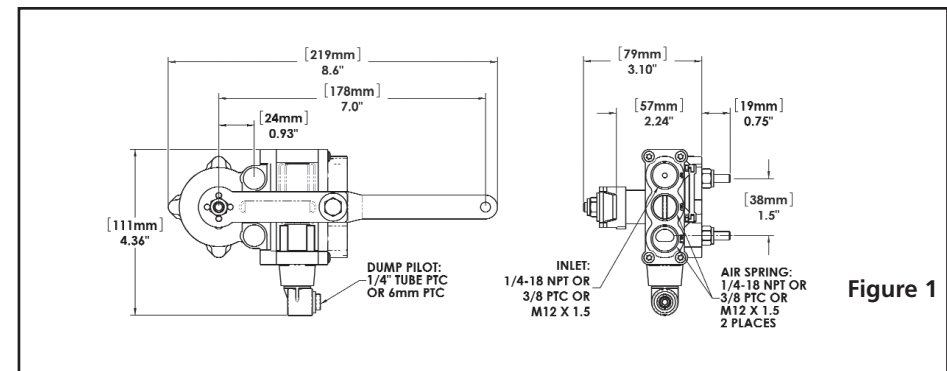

Figure 1
4. Mount the PR & PR Plus HCV on the frame rail or a bracket and torque mounting nuts to 35-45 in-lbs. Hexagonal head fasteners can be used to mount the PR HCV. Integrated fasteners are already installed in the PR Plus HCV. For proper mounting bolt spacing see **Fig. 1 & 2**. The PR & PR Plus valves should be mounted as level as possible. A small torpedo level or mason's line level can help in this positioning.